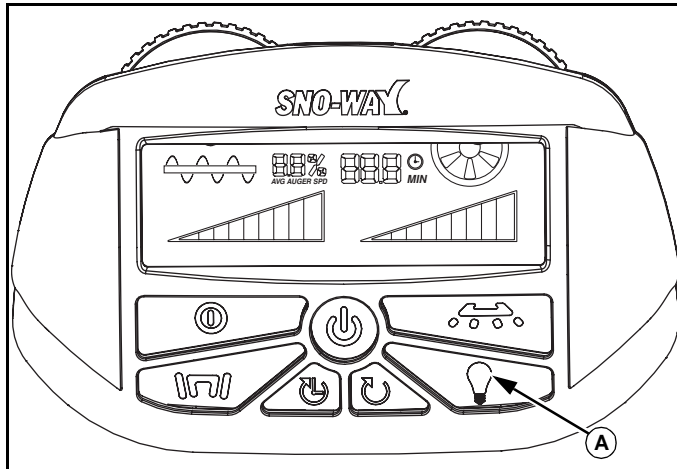

Figure 1-14
To operate the light, press the Auxiliary Light Button (A), then the button light will change from white to green. The light will operate if the unit is in Pause Mode or Run Mode. If the light is in Auto Mode and the control is running, the light can be turned off by pressing the button. The button light will turn white when turned off and green again if the button is pressed. (See Figure 1-14.)